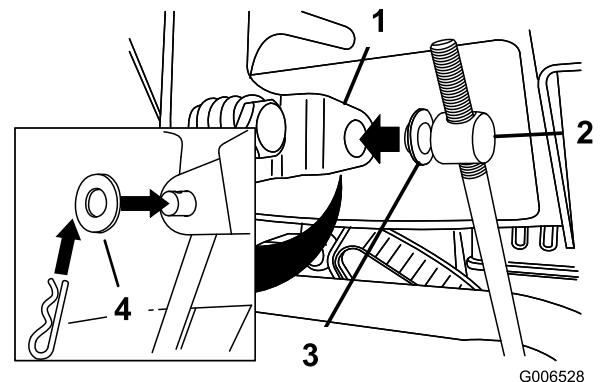

Figure 7
3. Place a flat washer on the trunnion (Figure 7).
6. Pull up on the speed-control rod and insert the trunnion into the hole in the speed-selector lever (Figure 7).
- B. Disconnect the trunnion from the speed-selector lever (Figure 7).
- C. Turn the trunnion downward (clockwise) on the speed-control rod (Figure 7).
- D. Connect the trunnion to the speed-selector lever (Figure 7).
- C. Turn the trunnion upward (counterclockwise) on the speed-control rod (Figure 7).